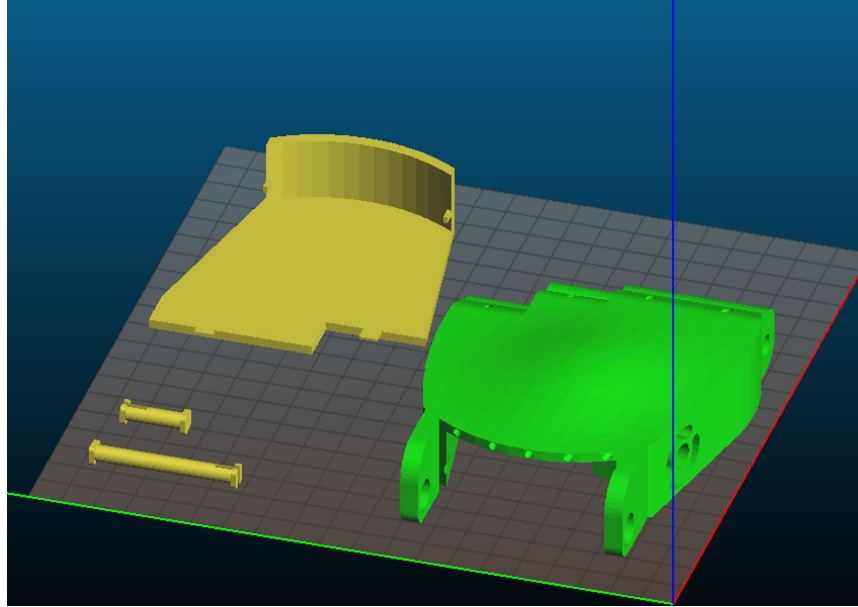

Figure 2.4.1: Assemble in slic3r
Printing the palm (items 7, 8, 9, 10) is one of the simpler parts of the arm assembly. It should not be necessary to scale the palm to accommodate for a bigger size. This is because if the part gets too big in either direction, the part would lose some function. The palm must be printed front side up (dome side facing upward). The palm top should be printed with the flat side facing down. Both pins should be printed sideways to reduce shear. Each part is printed at 40% infill and no support. A visual of this process can be seen in Figure 2.4.1. This design is the left hand by default. If a person wishes to use it for their right hand, simply right click the palm in slic3r, select mirror, and mirror the palm in the x direction.